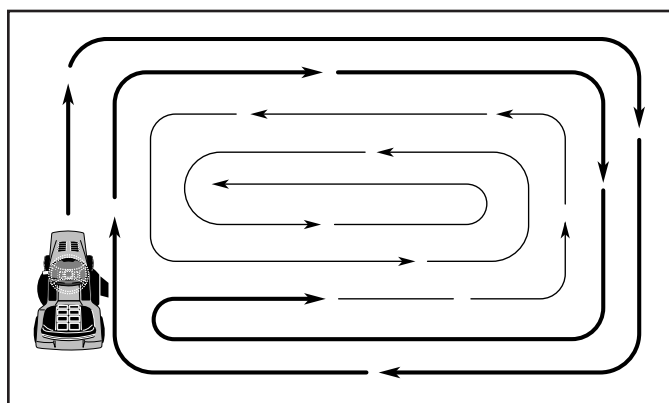

Fig. 24
- When mowing large areas, start by turning to the right so that clippings will discharge away from shrubs, fences, driveways, etc. After one or two rounds, mow in the opposite direction making left hand turns until finished (See Fig. 24).